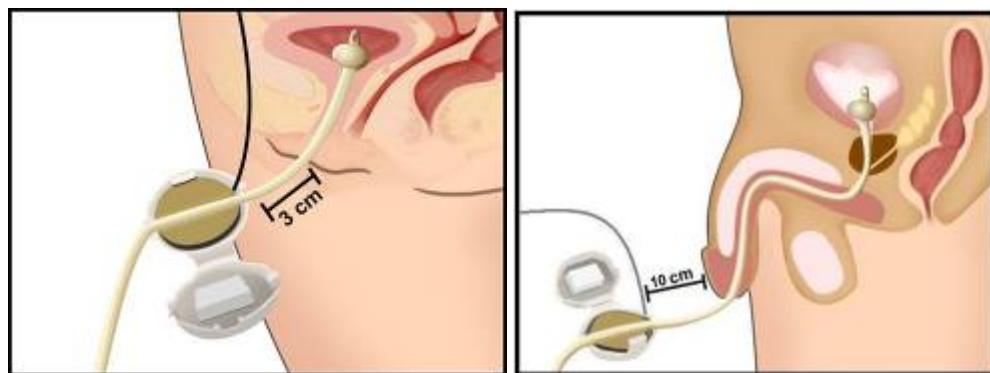

Figure 3: Actuator positioning
4. Estimate 2 to 3 cm (about 2 finger-breadths) away from the point the catheter exits the body in females. In males estimate 5 to 10 cm (about 4 finger-breadths) (Figure 3 below) and place the actuator over the catheter, so that the catheter enters and exits the actuator in the semi-circular grooves at each end. Always ensure that the direction of the actuator active cord is towards the patient (Figure 3 below).